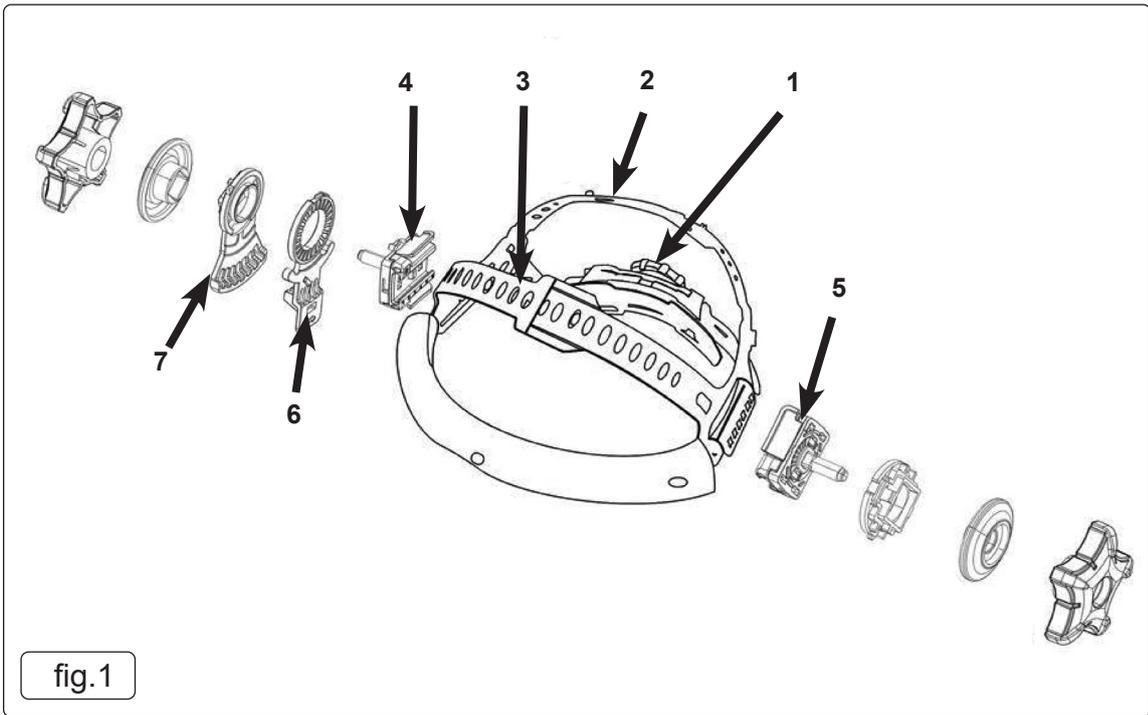

fig.1
**4.1. HELMET ADJUSTMENT (fig.1)**